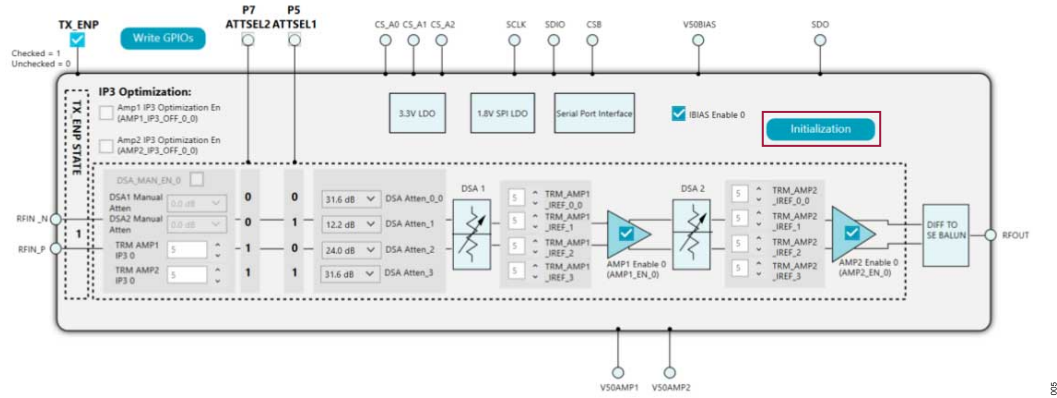
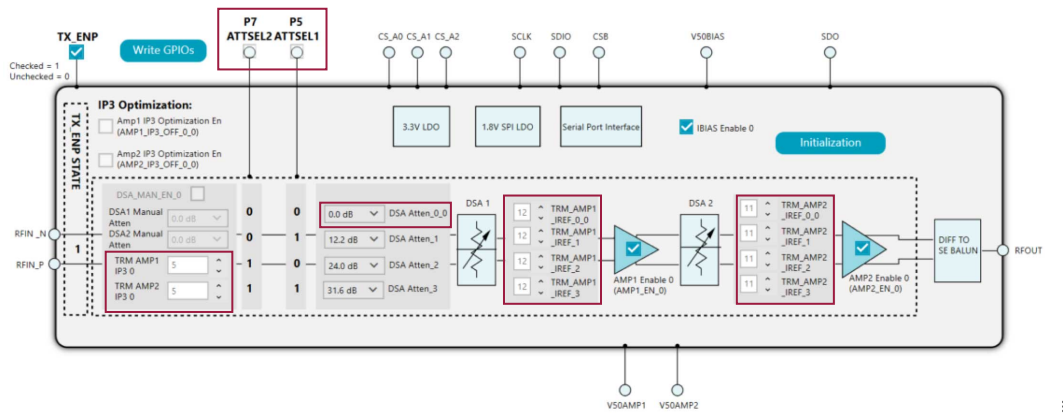

Figure 6. ADL6337-EVALZB Board Level View (After Initialization and TXENP Set to High)
Figure 7. ADL6337 IC Level View (TXENP Set to High)
5. Click Initialization to view the ADL6337 IC level view (see Figure 6 and Figure 7).